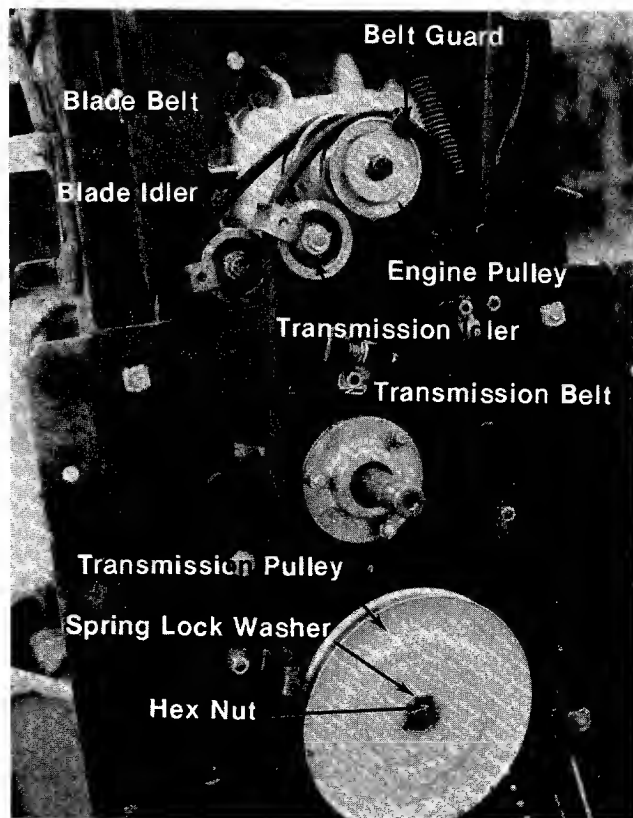

FIGURE 22. BELT SYSTEM
Step 4. Remove the transmission belt from the engine pulley. It may be necessary to spring the belt guard out of the way. When installing the new belt be sure to put the belt guard back in the original position. See figure 22.
- Step 6. Remove hex nut and spring lock washer on the transmission pulley and slide the pulley out until the belt can be removed. See figure 22.
- Step 4. Remove the transmission belt from the engine pulley. See figure 22.
It may be necessary to spring the belt guard out of the way. When installing the new belt be sure to put the belt guard back in the original position. See figure 22.
#### CREEPING OR BELT WEAR (See Figure 22)
#### **DRIVE PULLEYS (See Figure 22)**
#### **BELT WEAR—Belt Guards and Clips (See Figure 22)**
#### **CREEPING (See Figure 22)**